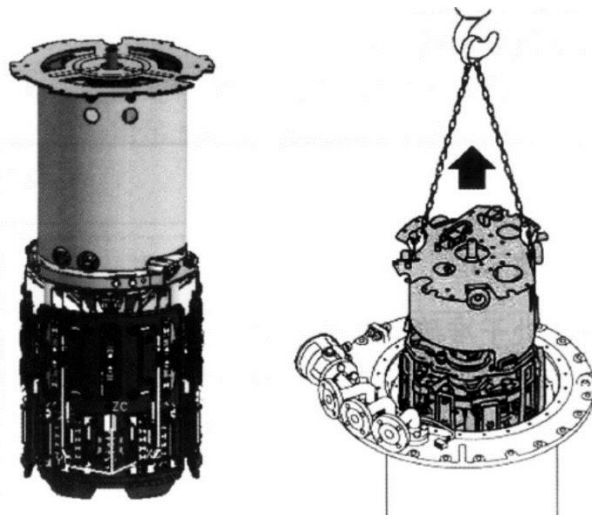

Figure 23 Lift out
- 6) Carefully lift out the switch insert vertically from the oil compartment (Figure 23).